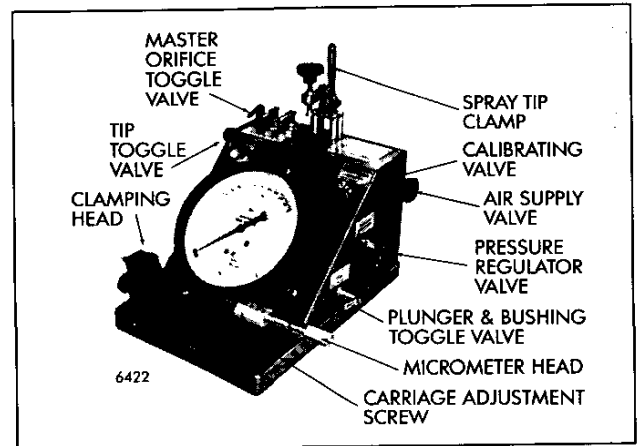

Fig. 12 – Plunger/Bushing and Tip Flow Gage J 25600-A
Place the flow gage unit in a clean well lighted area that has an air supply of 40 psi (276 kPa), but not more than 150 psi (1034 kPa). Turn off the air supply valve (on the rear of the flow gage) and connect your air line. Familiarize yourself with the various components on the unit (Fig. 12).
1. Set all toggle valves in the *closed* position (Fig. 12).